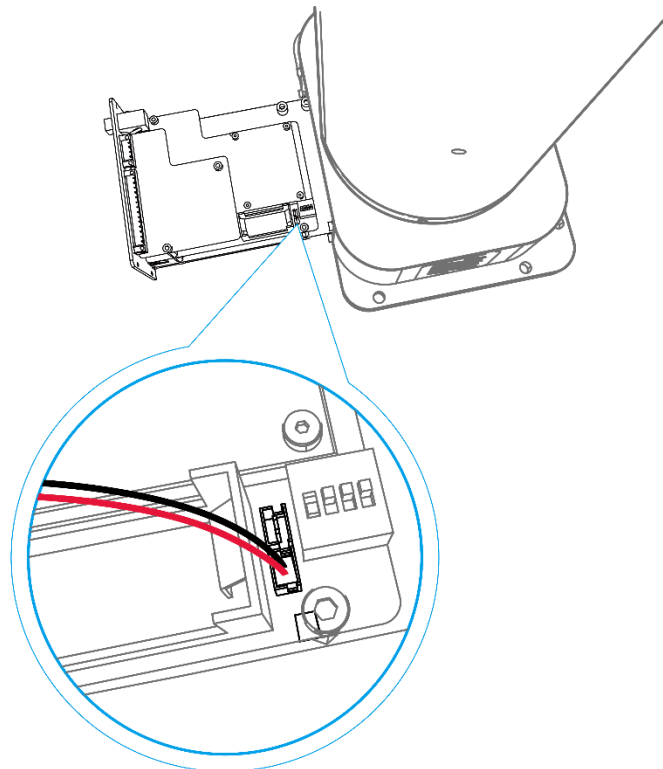

Figure 7.23 Connection between the battery and robotic arm
- If a fuse is not installed on the battery, please remove the cover of the battery holder to take out the original battery and unplug the battery connector of bus cable connecting to the battery holder, as shown in Figure 7.23.